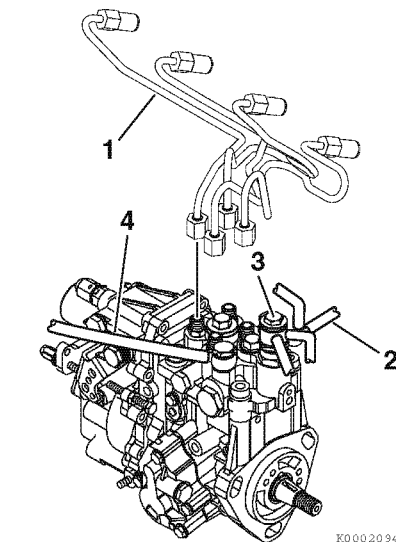

Figure 7-9
5. Remove the high-pressure fuel injection lines as an assembly (1, **Figure 7-9**).
8. Disconnect the coolant lines from the cold start device (3, **Figure 7-9**) on the fuel injection pump. Plug the open ends of the lines to minimize leakage and prevent contamination. This cooling water pipe is not used in electronically controlled engines 3TNV84T-Z, 3TNV88-Z, 4NV84T-Z, 4TNV94L-Z, 4TNV98-Z, 4TNV98-E, 4TNV98-A, and 4TNV98T-Z.
9. Disconnect the fuel return lines from the fuel return fitting (2, **Figure 7-9**). Plug the open ends of the lines to minimize leakage and prevent contamination.
- Remove the fuel supply line (4, **Figure 7-9**). Plug the open end of the line to minimize leakage and prevent contamination.